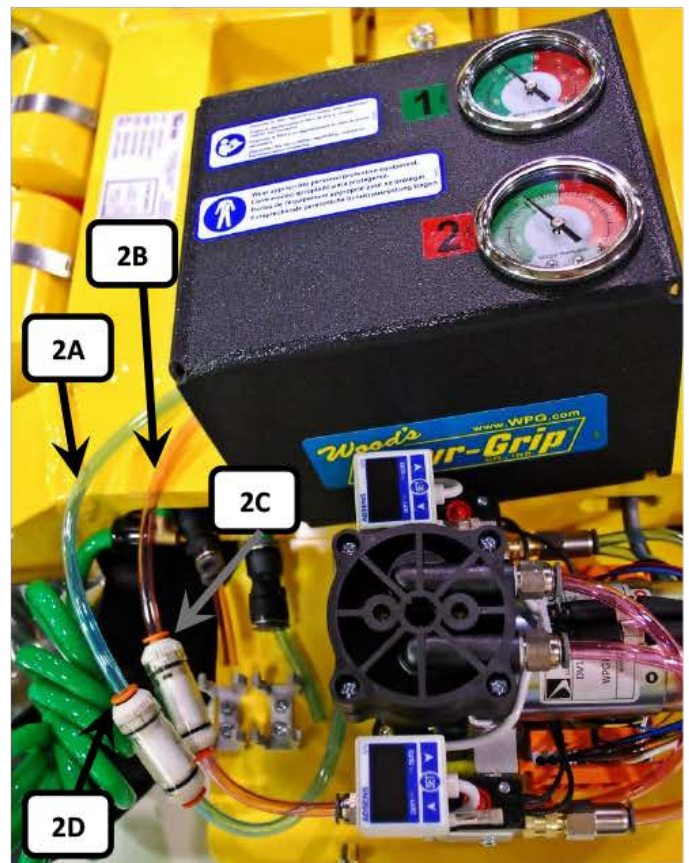

FIGURE 2
- 3) Attach the hose from the vacuum gauge directly to the corresponding filter to seal off the vacuum generating system from the pad system. The gauges for both circuits, blue/green and red) are shown attached to their corresponding filter in **FIGURE 2**.